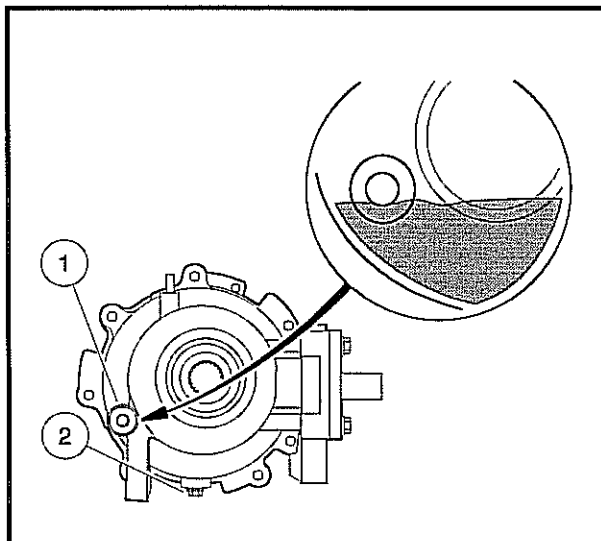
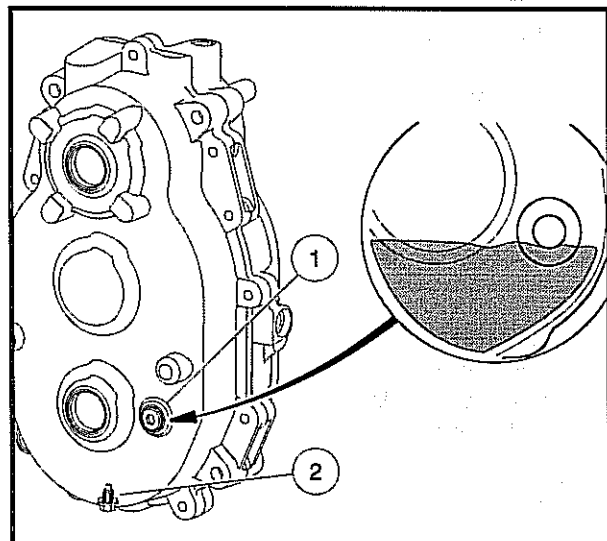
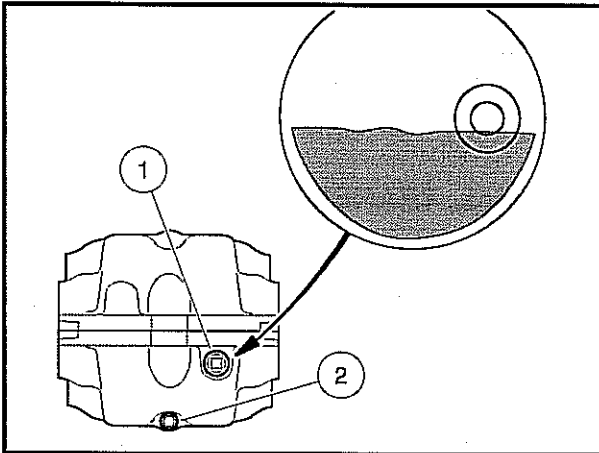

Figure 28 Front Differential Lubrication Level
Figure 29 Transmission Lubrication Level
Figure 30 Rear Differential Lubrication Level
Each gearcase component is equipped with two oil port plugs (1 and 2) (Figure 28, Figure 29, and Figure 30). When the vehicle is on a level surface, use the level indicator hole (upper plug) (1) as a lubricant level indicator. Lubricant level should be even with the bottom of level indicator hole (1).
Use the lower plug (2) for drainage (Figure 28, Figure 29, or Figure 30). Remove both plugs to allow the lubricant to drain faster. See preceding NOTE.
Clean and install the drain plug (2) and washer before filling the front differential with new lubricant (Figure 28). Tighten the drain plug to 11 ft-lb (14.9 N·m). Use a funnel when filling the gearcase through the lubricant level indicator hole (1). See Periodic Lubrication Schedule on page 32. Tighten the level indicator plug to 10 ft-lb (13.6 N·m).
Clean and install the drain plug (2) before filling the transmission with new lubricant (Figure 29). Tighten the drain plug to 8 ft-lb (10.8 N·m). Use a funnel when filling the transmission through the lubricant level indicator hole (1). See Periodic Lubrication Schedule on page 32. Apply Loctite 567 to the threads of the level indicator plug and tighten the plug to 21.0 ft-lb (28.5 N·m).
Clean and install the drain plug (2) and washer before filling the rear differential with new lubricant (**Figure 30**). Tighten the drain plug to 8 ft-lb (10.8 N·m). Use a funnel when filling the rear differential through the lubricant level indicator hole (1). **See Periodic Lubrication Schedule on page 32.** Apply Loctite 567 to the threads of the level indicator plug and tighten the plug to 21.0 ft-lb (28.5 N·m).